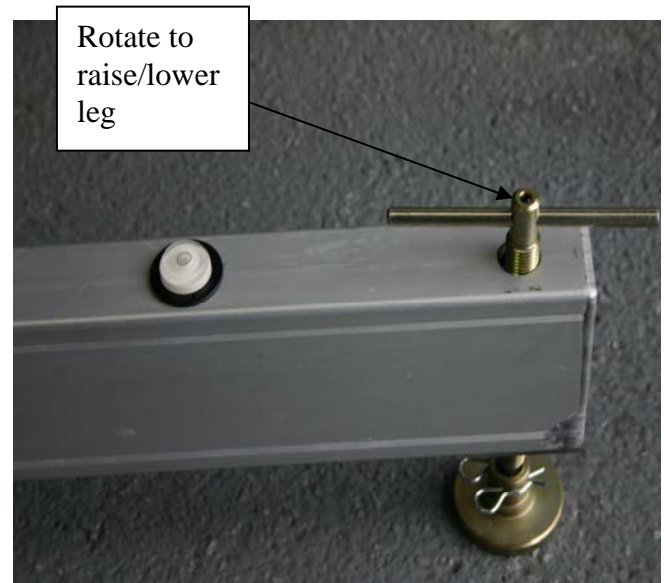

Figure 14 LEVELLING FOOT ASSEMBLY
3. Position the *PORTA-BASE* assembly in the operating position and adjust levelling feet so that leg members are horizontal (this can be checked using the Bulls-eye bubble on each leg) see Fig. 14.